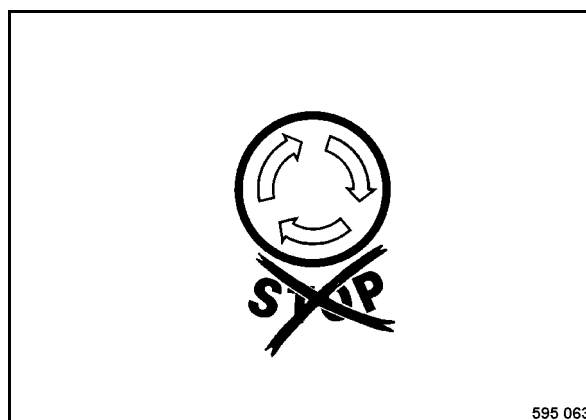

Fig. 29
- Check, whether the emergency stop switch (Fig. 29) is unlocked.